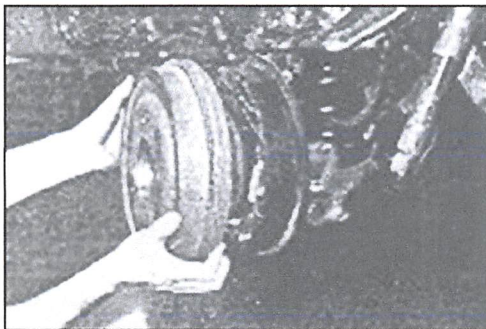
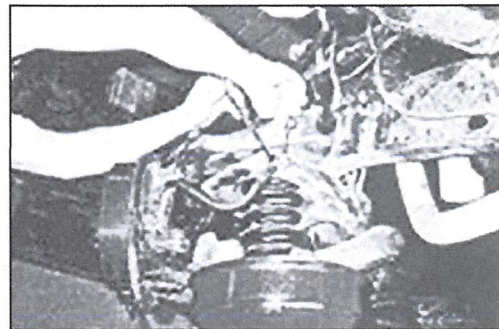

Fig. 2a
Fig. 2b
Step 2: Remove the front brake drum (Fig. 2a). With drain pan in place, loosen the steel brake line fitting at the brake hose (Fig. 2b). After draining all brake fluid, remove the retaining clip holding the brake hose.